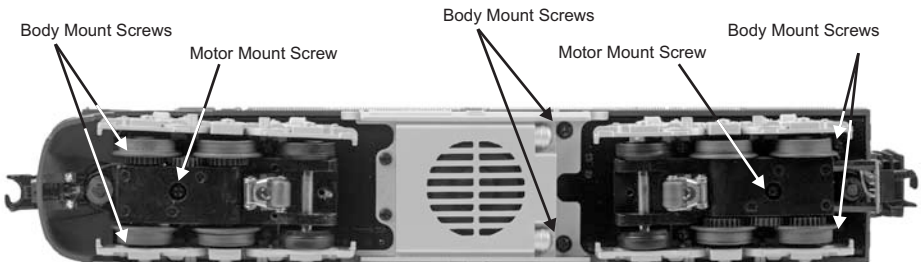

Figure 7: Body Mount Screws
1. To access the gear box, remove the cab from the chassis by unscrewing the body mount screws as seen in fig. 7 and lifting the cab from the chassis.
2. Once the cab is removed, remove the trucks by unscrewing the black Phillips motor mount screw located on the underside of the drive trucks (fig. 7).